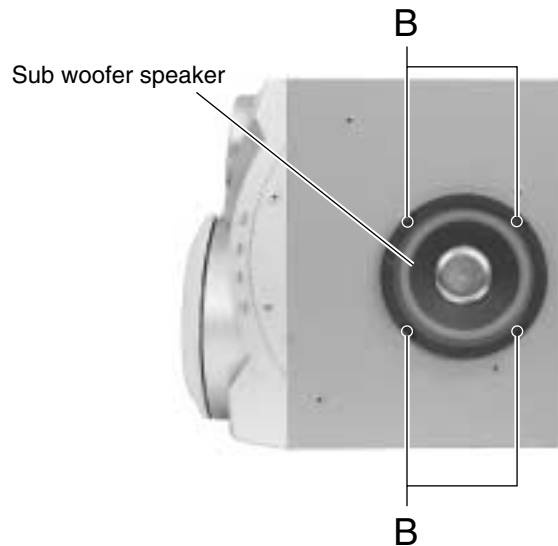

Fig.2
■ Removing the sub woofer speaker (See Fig.2)